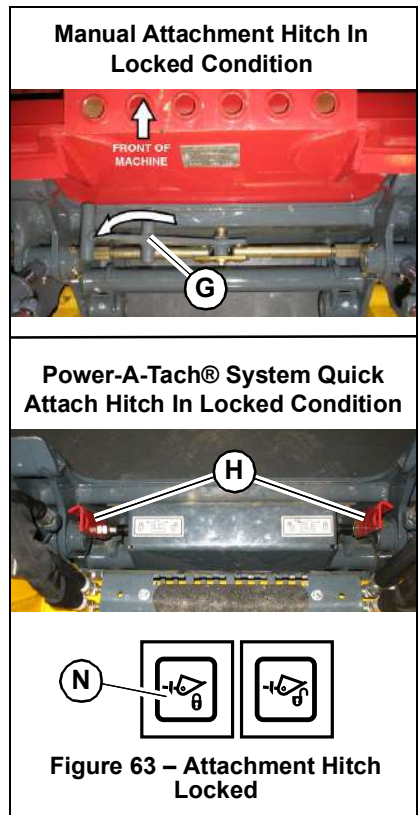

Figure 63 – Attachment Hitch Locked
- **All-Tach® system manual hitch:** Move hitch lock lever (G) all the way to the right.
- **Power-A-Tach® system quick attach hitch:** Press the Power-A-Tach® system unlock button (I) on the control keypad until safety flags (H) have moved all the way in.
3. Lower the lift arm so tabs (J) on the top of the attachment plate are aligned just under the hooks on the back of the attachment.
4. Tilt the attachment plate back until tabs (J) on the top of the attachment plate are engaged against the hooks on the back of the attachment.
5. Raise the lift arm slightly until the attachment is hanging from the hooks on the back of the attachment and tabs (J) are firmly inserted into the hooks. Tilt the attachment plate back, if necessary, so the back of the attachment is resting flat against the attachment plate.
6. Place the attachment lock into the locked position (Figure 63):
- **All-Tach® system manual hitch:** Perform the “Mandatory Safety Shutdown Procedure” on page 14 and move hitch lock lever all the way to the left (G).
- **Power-A-Tach® system quick attach hitch:** Press the Power-A-Tach® system lock button (N) on the control keypad. The safety flags (H) will move to the outside of the hitch. On 1650R models - SN 191901 and Up, the warming circuit will also be activated. If the temperature is below 0° F (-18° C) it is recommended to leave the warming circuit on.